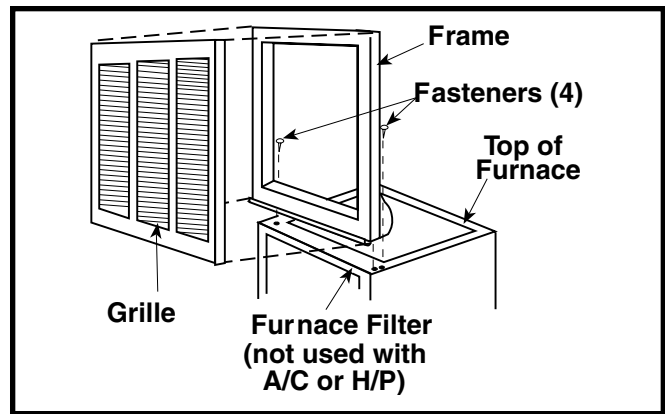

Figure 2. Grille Support Frame & Grille Assembly
- Alcove installations: use return air grille & frame assembly P/N 902989 or equivalent. See Figure 2 \(page 7\).
- Use the filter supplied with the furnace. Make sure the filter is installed mat side down between the filter retainer and furnace top. See Figure 2.
A return air grille and frame assembly (Figure 2 (page 7)) is available for use in unducted return air installations. In downflow alcove installations, the grille and frame assembly may be mounted directly to the top of the furnace. In closet installations, a wall mount grille is available for attachment to a door or wall.